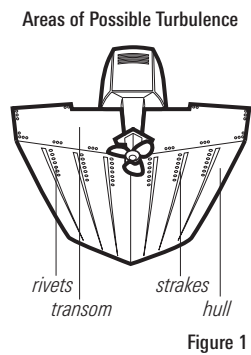

Figure 1
- The best way to locate turbulence-free water is to view the transom while the boat is moving. This method is recommended if maximum high-speed operation is a high priority. If this is not possible, select a location on the transom where the hull forward of this location is smooth, flat, and free of protrusions or ribs (Figure 1).